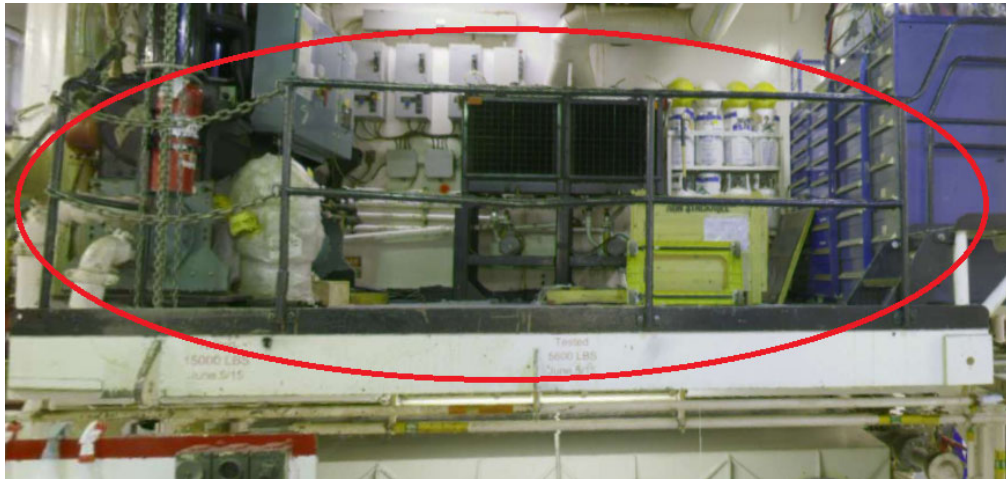

Figure 4 24' Platform Handrail
- b) 24' Platform Handrail – The handrail to the aft side of the platform must be removed to facilitate the rotation of the units, see Figure 4.